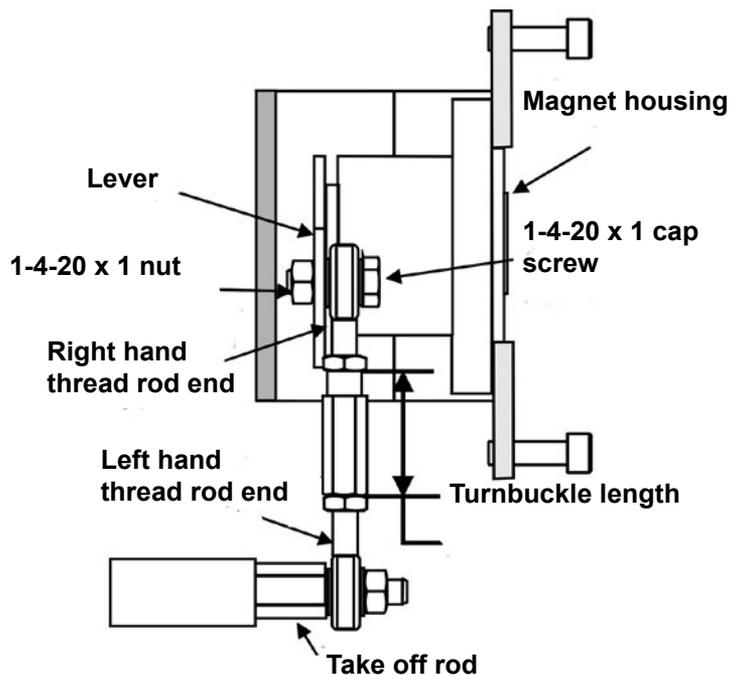

Figure 25 - Reciprocating Linkage
5. Thread the take-off rod to the actuator stem connector. Refer to Figure 25. Ensure that the travel pointer located on the coupling is correctly positioned.
10. Thread the turnbuckle onto the left hand threaded rod end. Refer to Figure 25 on page 56.